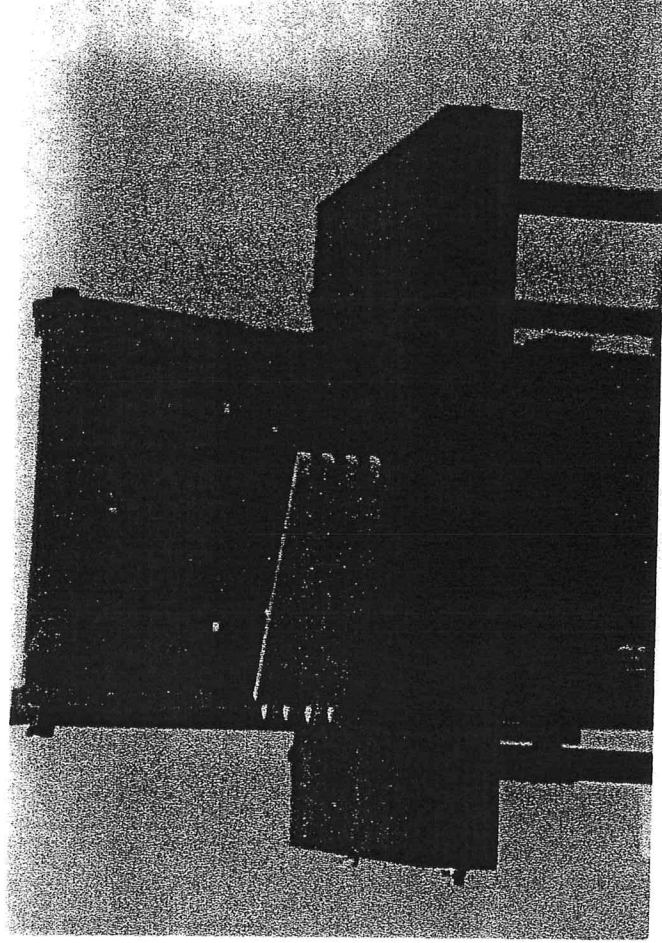

Fig. 4
7. Assemble joint and check fit. (fig. 4)